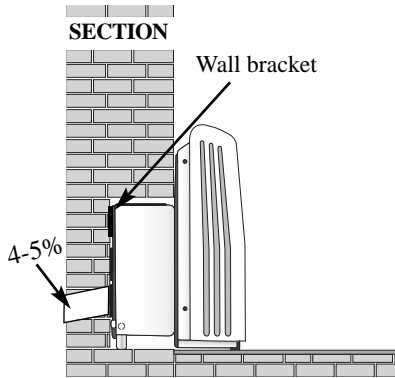

fig. 8
**IMPORTANT: make sure that the downward inclination of the condensate drainage outwards is in the range of from 4 to 5% (fig. 8):** slowly pour water into the condensing unit's condensate collection tray and then make sure that the pipe prepared above drains this water correctly.